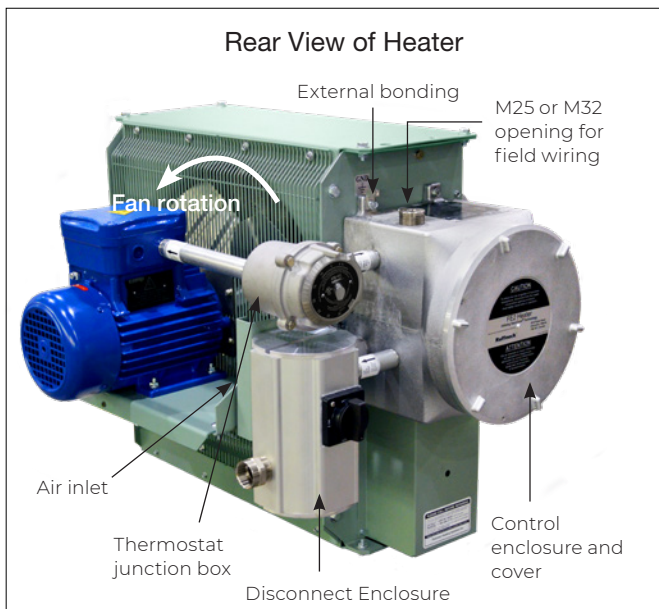
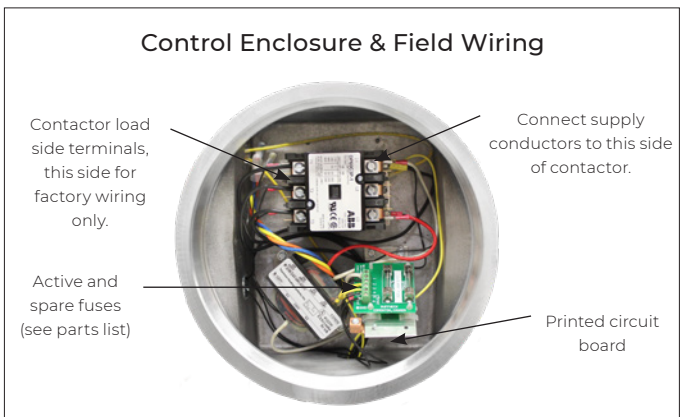

Figure 6
Figure 7
- 2.1 The supply conductors, ground conductor, and room thermostat conductors all pass through the M32 or M25 opening (Figure 6, page 9) and are to be wired into the control enclosure (Figure 7, page 9).
- 2.3 Heater may be supplied with a factory installed built-in integral disconnect. (See Figure 7, page 9)
- Power Supply conductors and Ground conductor pass through M32 opening of Disconnect Enclosure (Figure 7, page 9). Supply conductors to be wired to Disconnect Switch inside. Ground conductor to be wired to Ground Lug fastened to inside of Disconnect Enclosure.
- If applicable, Remote Room Thermostat conductors pass through 1" NPT opening (see Figure 7, page 9) and are to be wired to printed circuit board terminals marked “T’STAT”.
- The internal grounding terminal in the control enclosure shall be used as the equipment grounding means. An external bonding terminal (Figure 6, page 9) is provided for a supplementary bonding connection where local authorities permit or require such a connection.
- Ensure that the fan rotates freely. See Figure 6, page 9 for proper direction of fan rotation.